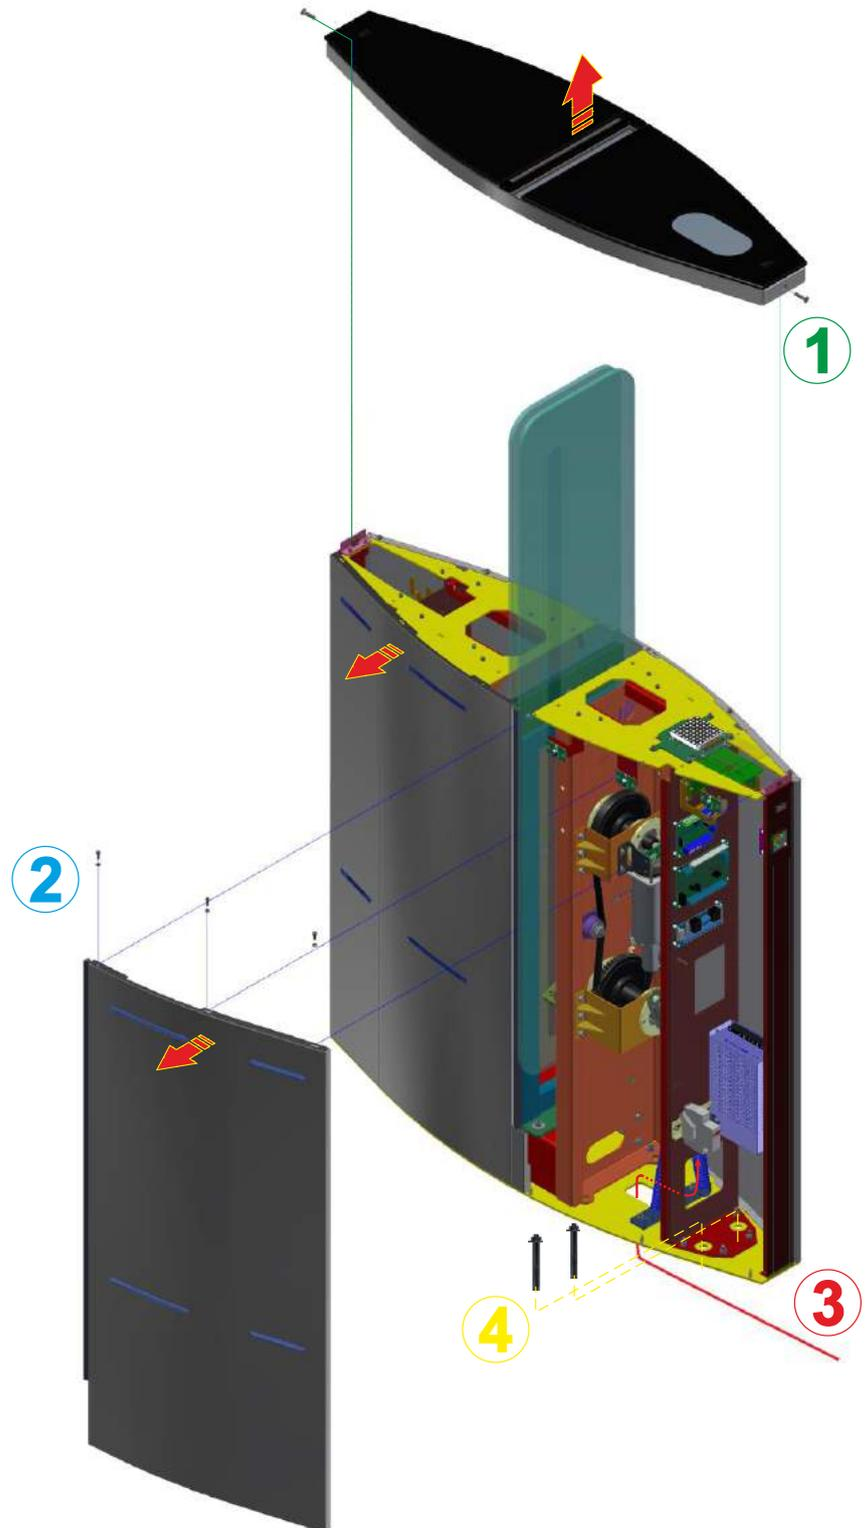

Fig. 16 - General view of the «JETPAN-1» turnstile cabinet installation
1.- remove the turnstile lid by unscrewing screws on butt ends (See Fig. 16);